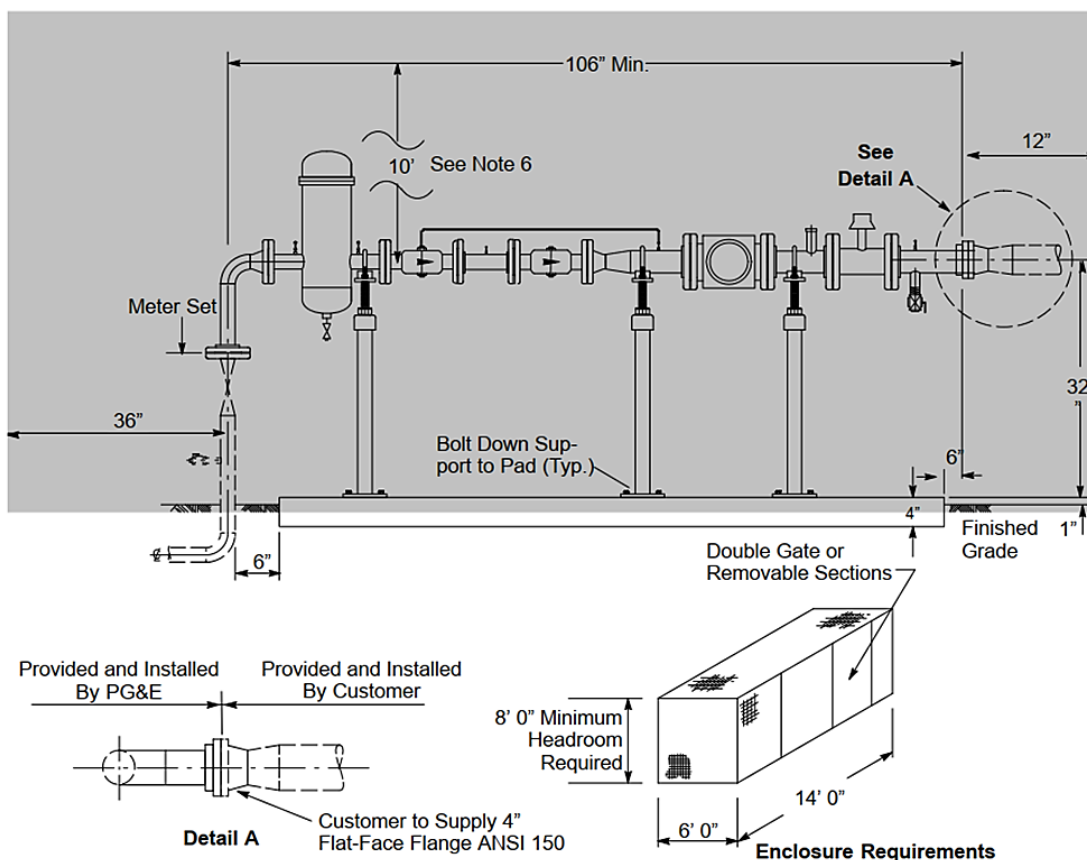

Figure 8. Typical 11M or 16M Rotary Gas Meter Set
- (5) PG&E’s weld elbow is optional.
- (6) The meter set must clear any sources of ignition or openings into the building. The riser must be a minimum distance of 36 inches from sources of ignition and openings into the building, or any wet facility. This clearance area extends 10 feet above the highest regulator vent, 36 inches below the lowest regulator vent, and 12 inches beyond the farthest PG&E meter-set equipment.
F. Figure 8 represents a rotary gas meter with 7,001 through 16,000 scfh at an approved delivery pressure.
G. Notes in reference to Figure 8:
- (1) Customers must provide a 96-inch x 36-inch x 4-inch concrete pad with minimum #4 rebar that is typically 12-inches grid on center.
- (2) Customers must provide a 4-inch ANSI 150 flat-face flange to connect to PG&E facilities.